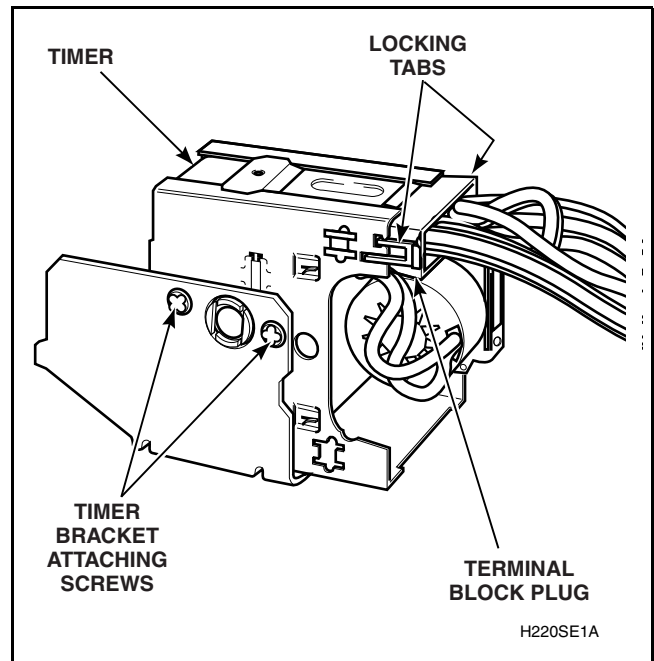

Figure 42
- d. Disengage wire harness terminal block plug from timer by pressing in moveable locking tabs (located on each side of terminal block). Refer to *Figure 42*.
- e. Remove two screws holding timer to timer bracket. Refer to *Figure 42*.